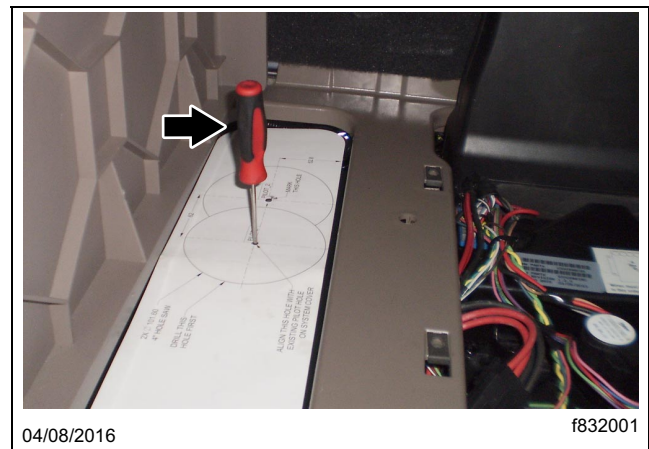

Fig. 5, Positioning the Template
7. Position the template provided in the kit as shown in **Fig. 5**. Stick a screw driver in the inboard centering mark and the raised boss on the ParkSmart box to hold the template in place, then mark the outboard center on the top of the box for the two 4-inch holes.